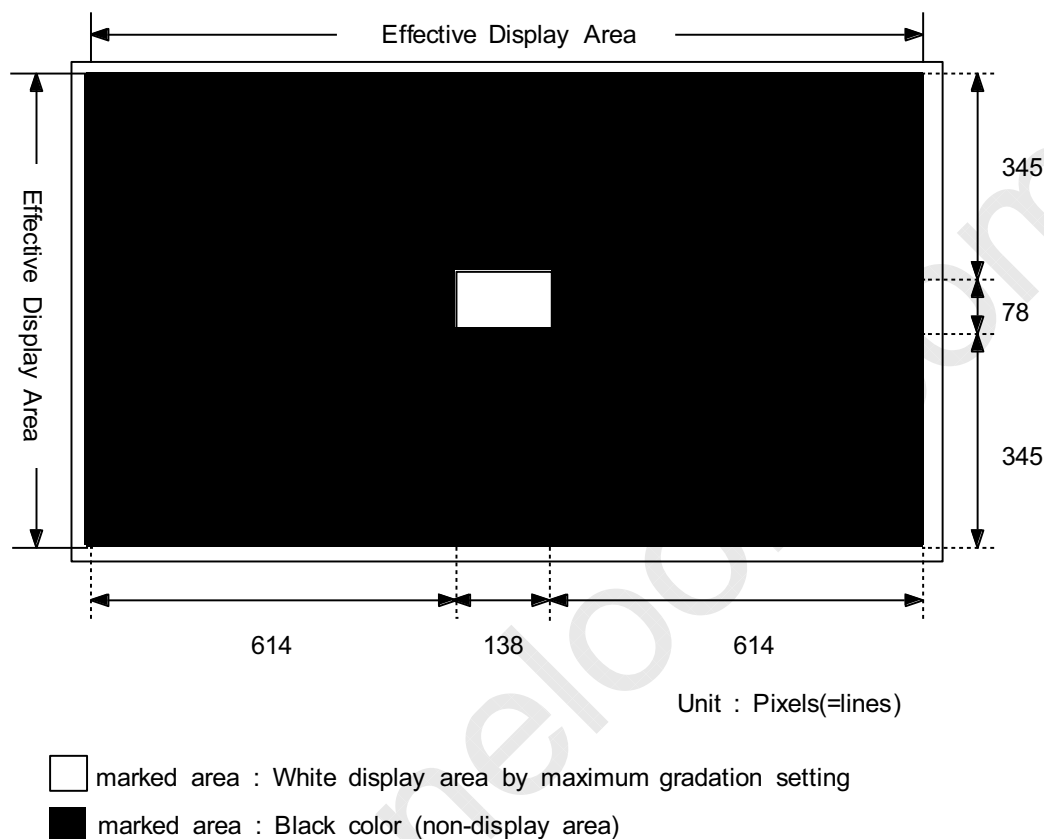

Figure-3. Display Pattern for Brightness & Contrast Ratio Measurement
- * 1. Luminance and Color Coordinates are the values that were measured with Full load ratio white pattern. The condition for measurement is shown in Figure-3.
2. Measurement is done within 3 seconds after Display Pattern(Figure-3) On